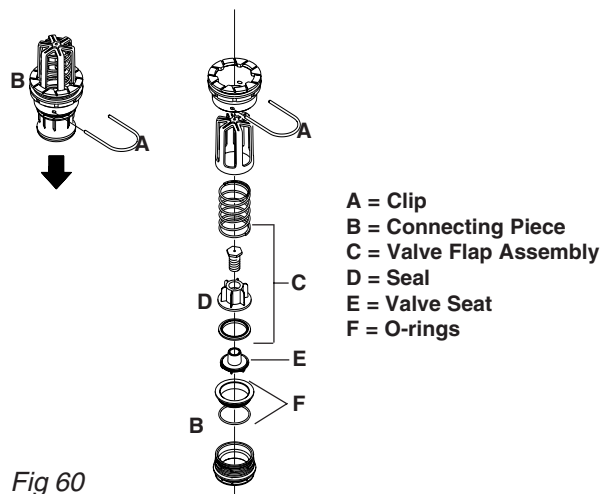

Fig 60
- 3 Pull out the clip (A Fig 60) and pull down the connecting piece (B Fig 60). The entire valve assembly can now be pulled out.
- 4 Check the cord and valve flap assembly (C Fig 60) for wear, replace the seal (D Fig 60) and reassemble.
- 5 Assemble the valve assembly again using a new valve seat (E Fig 60). Lubricate the O-rings (F Fig 60) before assembly.
- 6 Fit the clip (A Fig 60) again.